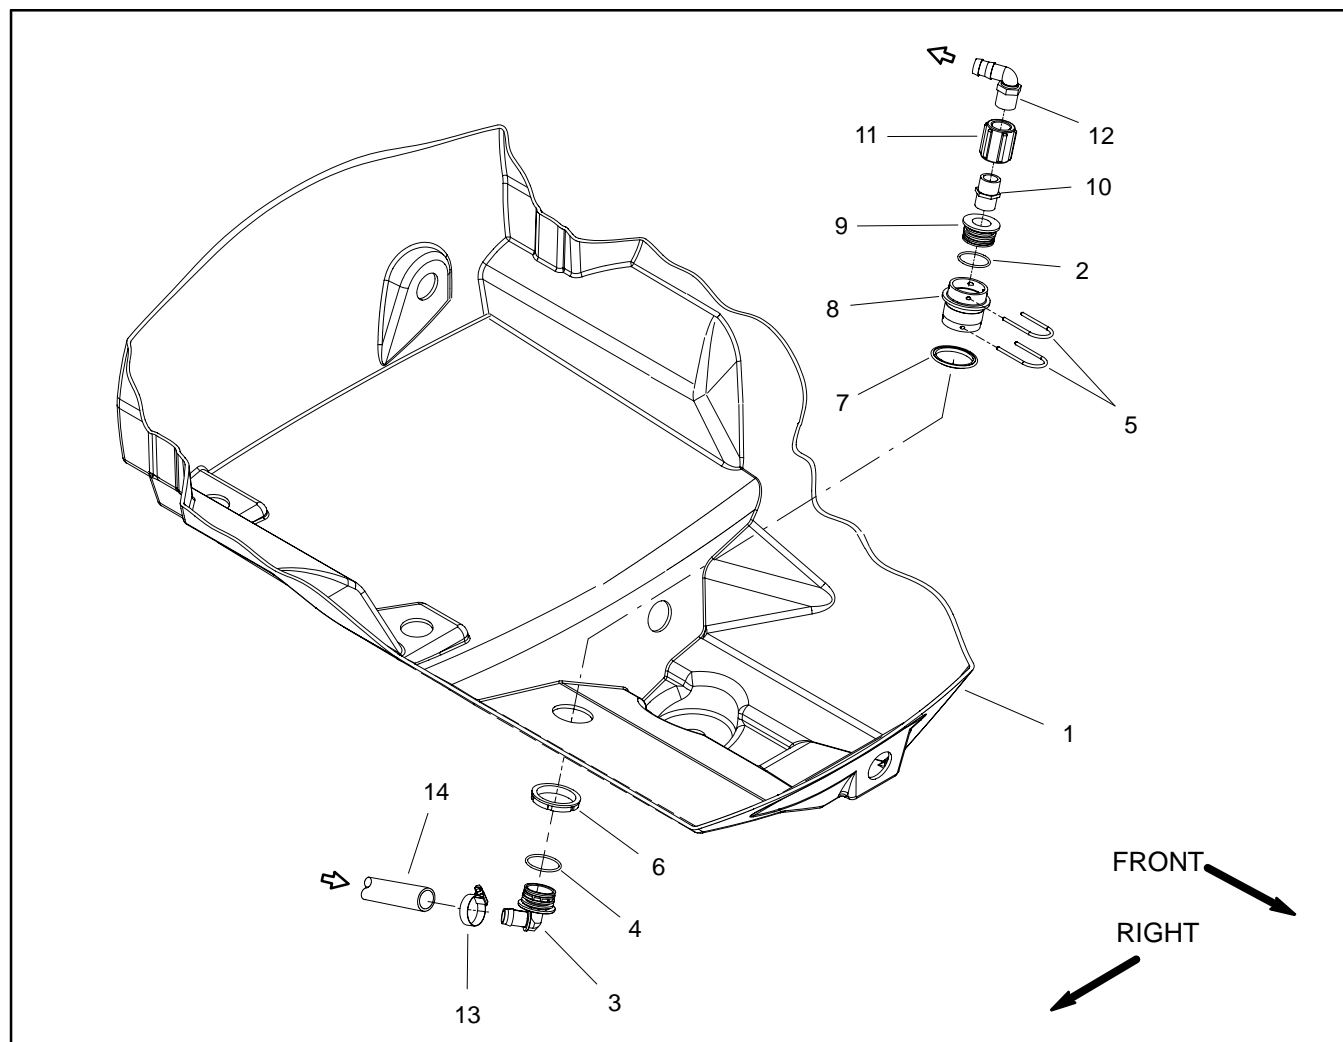

Figure 51
Disassembly (Fig. 51)
4. Disassemble boom bypass using Figure 51 as a guide. Discard all removed O-rings and gaskets.
Assembly (Fig. 51)
1. Assemble boom bypass using Figure 51 as a guide. Replace all removed O-rings and gaskets.